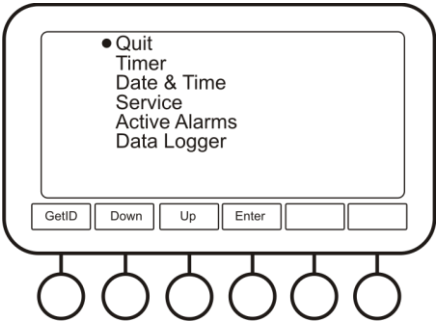

Figure 2. Menu
- 5.9. **Incubator menu** (fig. 2). **Menu** button opens incubator's menu. Use **Down** and **Up** buttons to navigate and **Enter** button to select. While browsing in the menu, select the topmost **Quit** option in order to return to the previous level. Option **GetID** shows the serial ID and name of the incubator.